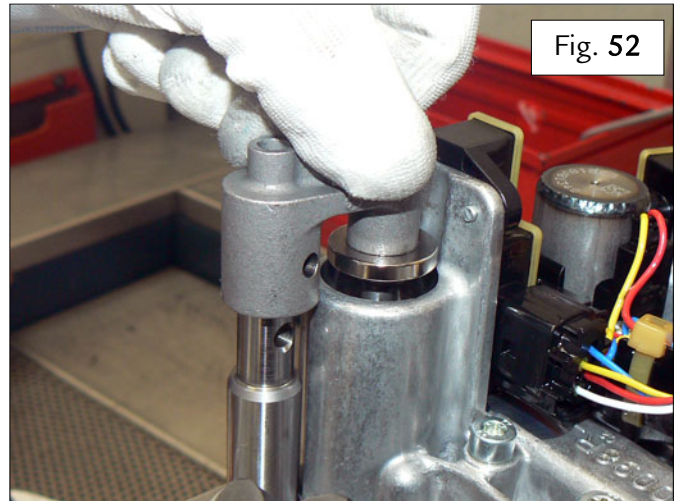

Fig. 52
- Install the new actuator bracket vertically – Fig. 52.